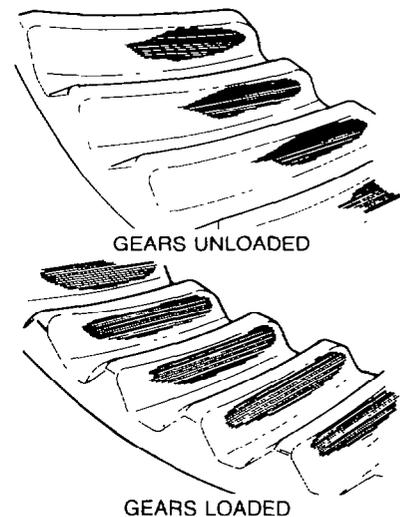

Figure 224 — Correct Contact Patterns
- ac. Fig. 224 illustrates the correct contact pattern obtained when both the pinion shaft and the crownwheel are set to the correct specifications.